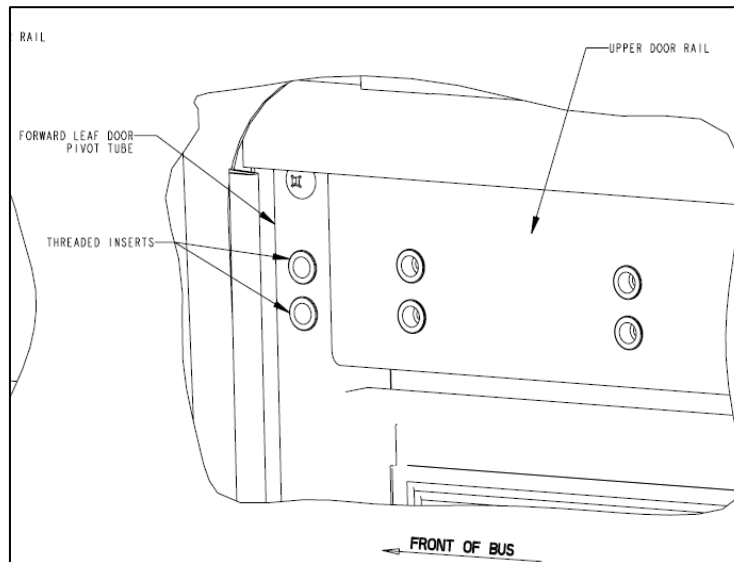

Figure 3: Threaded insert locations
- 11) Push each of the inserts until they are firmly seated against the door pilot tube. Using a nut sert tool, tighten the inserts to a torque value of 5 lbf-ft. **See Figure 3.**
- 10) Using the two holes in the flange of the bracket as shown in **Figure 3** (drilling into the blind cavity only), with a 1/4 in. drill bit, drill a hole in each of these two holes located inside the pivot door tube.
- 14) Push each of the inserts until they are firmly seated against the door pilot tube. Using a nut sert tool, tighten the inserts to a torque value of 5 lbf-ft. See **Figure 3**.